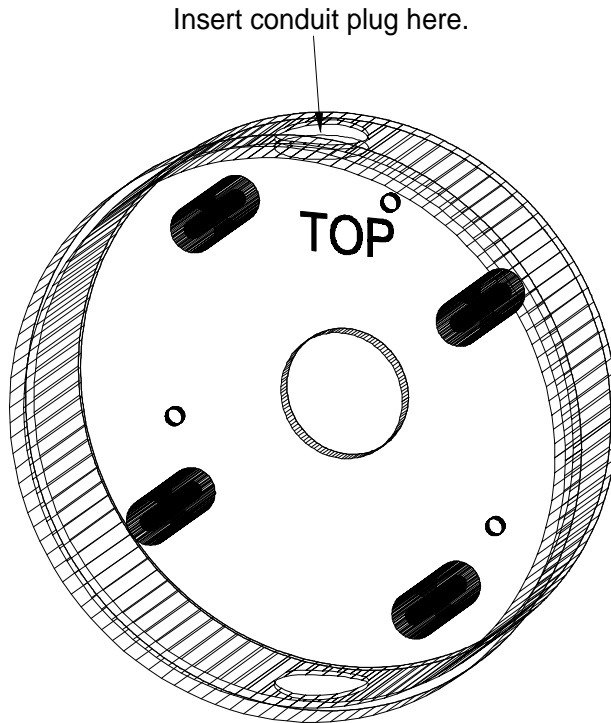

Figure 10 Horn Back Box
6. The weatherproof back box has two threaded conduit holes. Screw the provided conduit plug into the hole near the word “TOP” inside the weatherproof back box (figure 10).